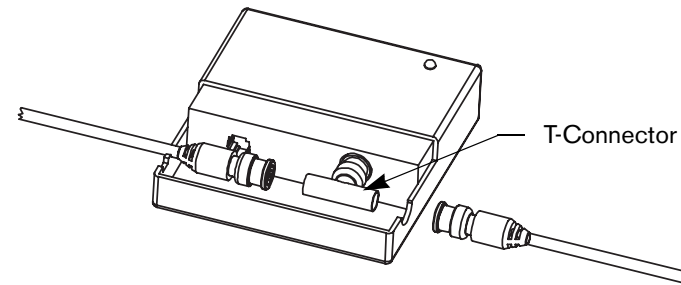

Figure 15: Connecting a wired floor unit
5. Start cabling wired floor units together. Connect the coaxial cables to each side of the T-Connector in each wired floor unit. See Figure 15.